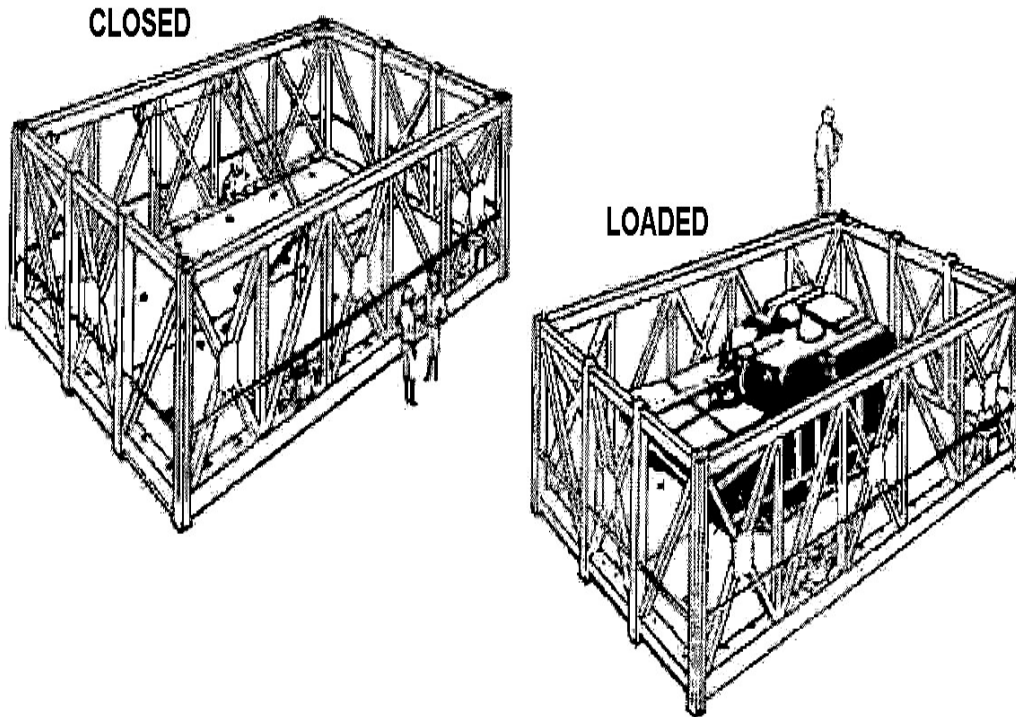

Figure 3-50
2. Secure vehicles or cargo in seasheds (see Figure 3-50).